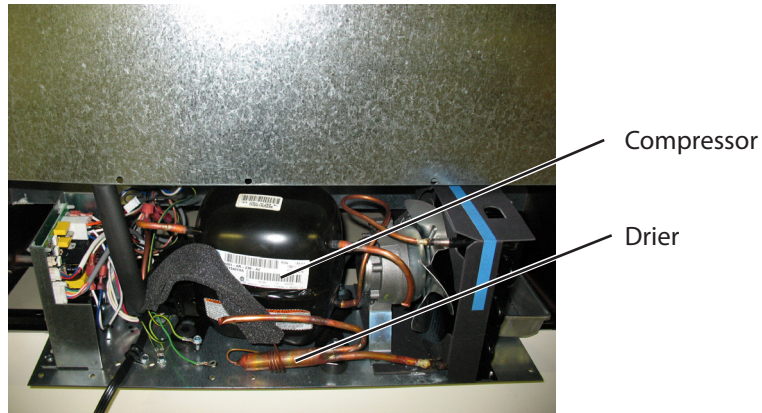

Figure 4.4
The compressor is the heart of the refrigeration system (see Figure 4.4). However, it relies on other parts of the system to function. Make certain that the other parts of the system are functioning correctly before determining that the compressor is faulty.
7. Un-braze and remove capillary tube from drier assembly (see Figure 4.4).